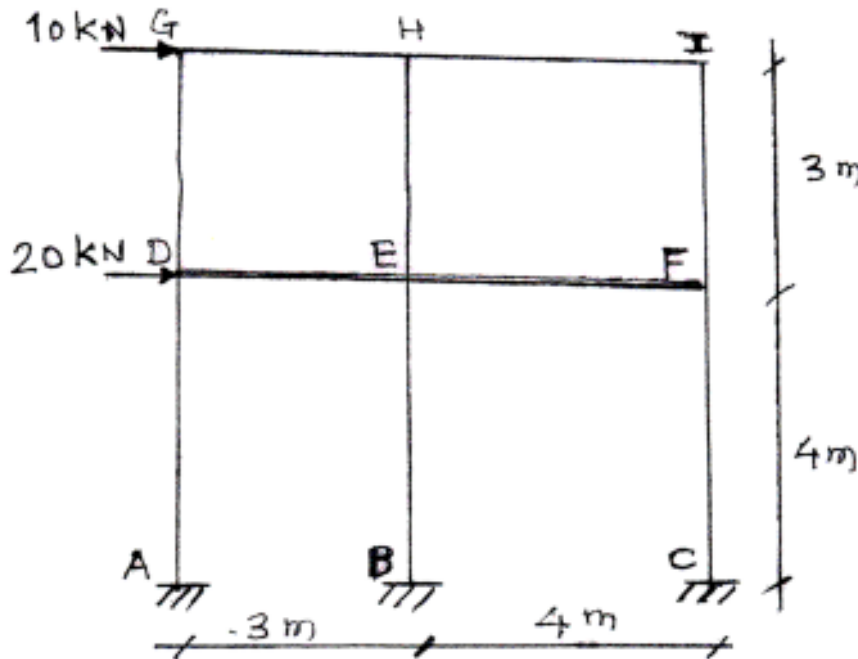

Fig. 3
5. a) Using portal method and cantilever method of approximate analysis, compare the end moments for beam ABC of rigid jointed multistoried plane frame loaded and supported as shown in **Fig. 3**. Comment on the results. Draw BMD, SFD and Axial Force Diagram for beam ABC only. Take same cross sectional area for all members.